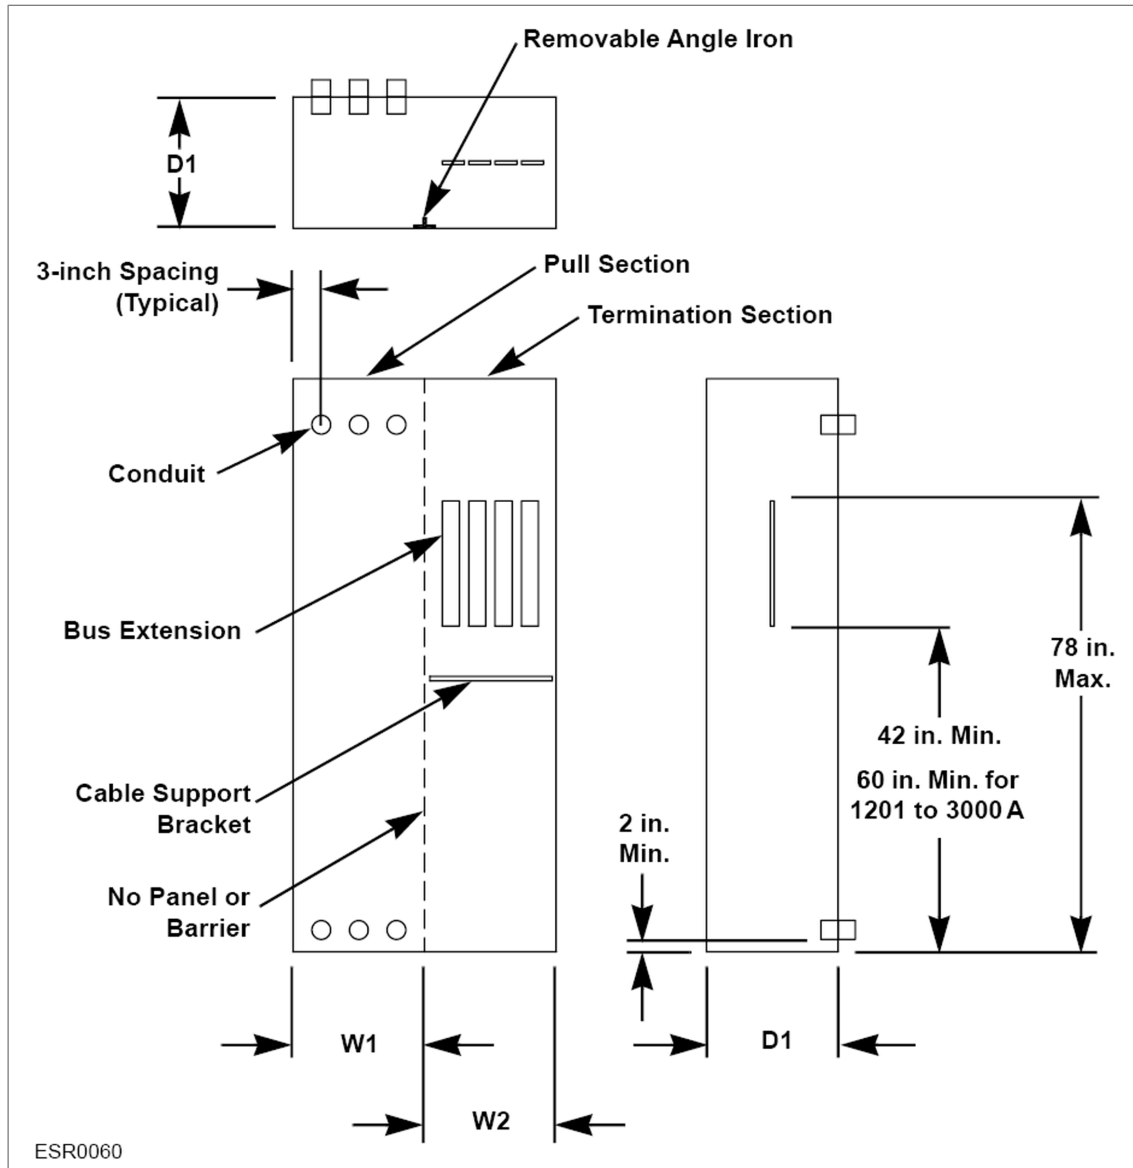
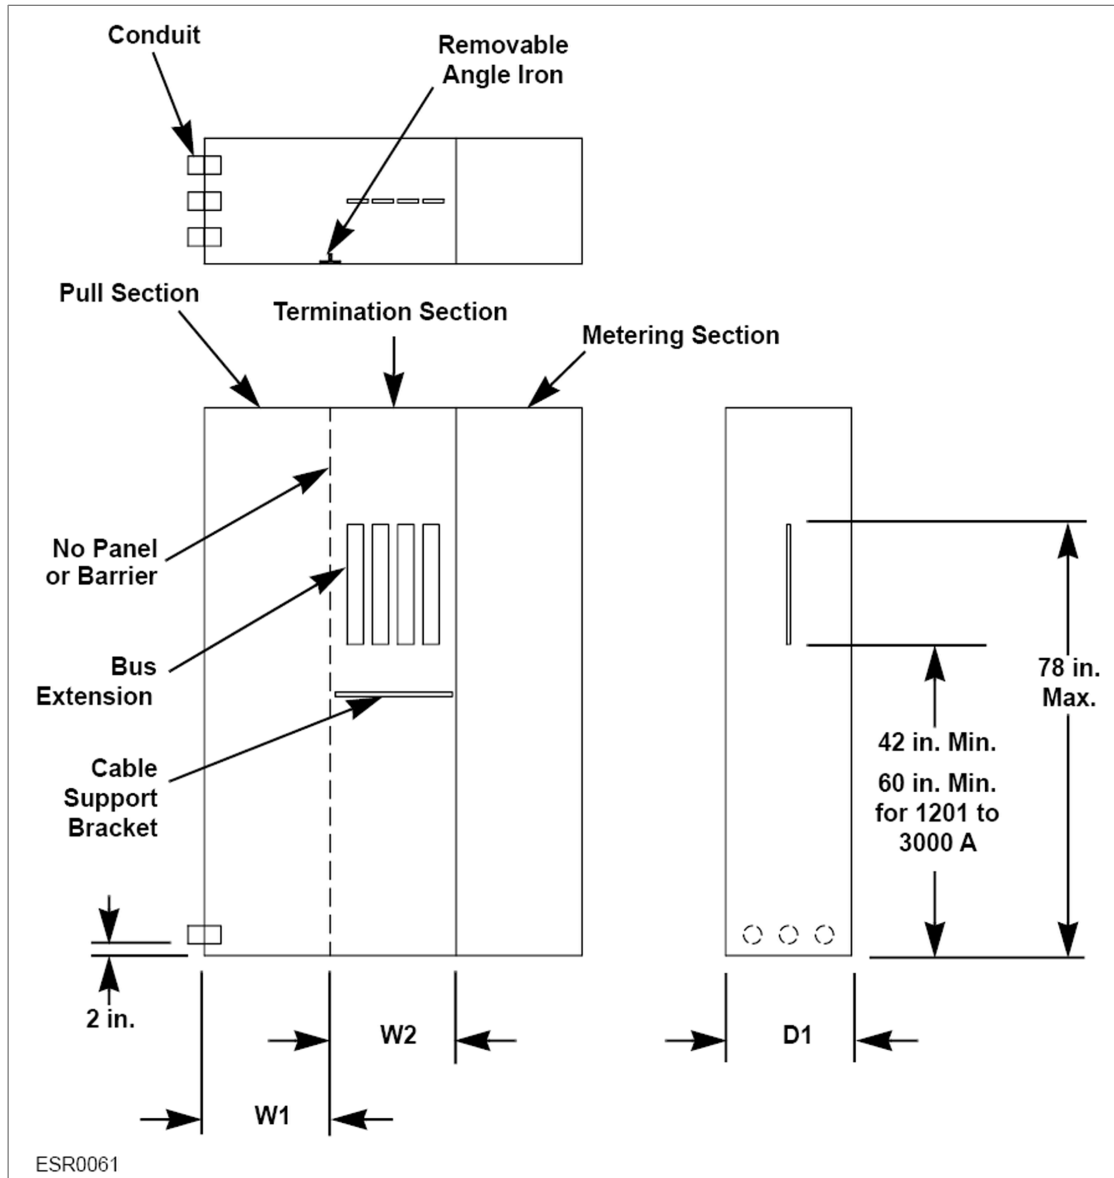

Figure 99: Underground Service Termination in a Pull Section Below Ground Level, Showing Pull Section with Back-Entry Conduits at the Top or Bottom
Figure 100: Underground Service Termination in a Pull Section Below Ground Level, Showing Pull Section with Side-Entry Conduits at the Bottom
- **Figure 99** shows a pull section with back-entry conduits at the top or bottom.
- **Figure 100** shows a pull section with side-entry conduits at the lower end of the section.
- The pull section and termination section shown in **Figure 99** and **Figure 100** are reserved for PGE supply conductors. No conduits or customer wiring is to be installed in—or routed through—this area.